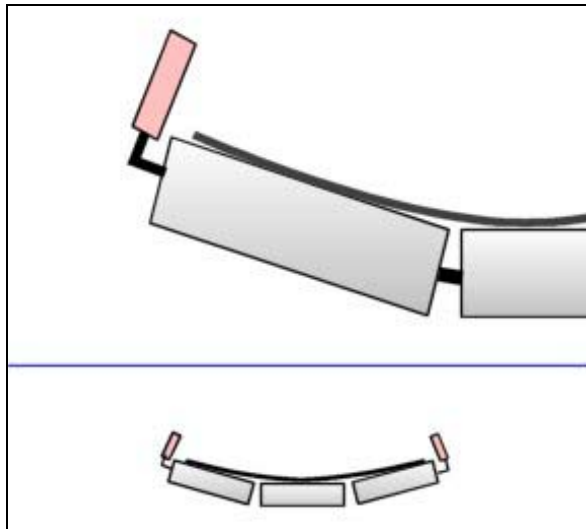

Figure 19. Training Roller (Typical).
**Training Rollers** are used to keep the conveyor belt centered on the conveyor system (Figure 19).